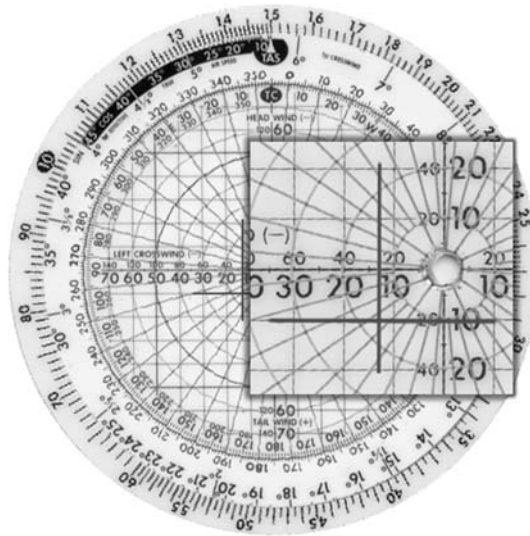

Figure 4.6-9 In-Flight Wind Calculation 6
6. Compare TAS to GS to obtain the HW/TW component ($250 \text{ TAS} - 220 \text{ GS} = 30 \text{ kts HW}$, which also agrees with the estimate). Draw horizontal line along appropriate value (Figure 4.6-9).